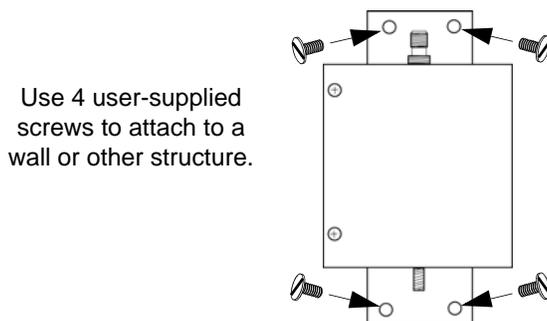

Figure 3-7 Attaching the IF Converter
4.	Use user-supplied screws to mount the IF downconverter to a suitable wall or other structure (Figure 3-7). Be sure the distance along the cable route between the IF downconverter and the antenna is no more than 3 m.
1.	Attach the IF downconverter (Figure 3-7) inside the building to a suitable wall or other structure. Be sure the distance along the cable route between the IF converter and the antenna is no more than 1.8 m or 5.8 m depending on wall antenna cable length used. Include allowances for the drip loop and local company procedures for cable routing.